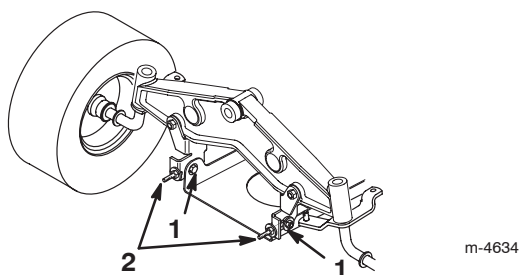

Figure 52
10. Slightly loosen the front pivot plate mounting bolts (Fig. 52).
11. Rotate the locknuts on the eyebolts to change the adjustment (Fig. 52).
12. After adjusting both of the eyebolt locknuts evenly, check the front-to-rear slope again. Continue adjusting the eyebolts until the front blade tip is 0 to 3/8 in. (0 to 9 mm) lower than the rear blade tip (Fig. 52).
13. When the front-to-rear slope is correct, tighten the pivot plate mounting bolts (Fig. 52).